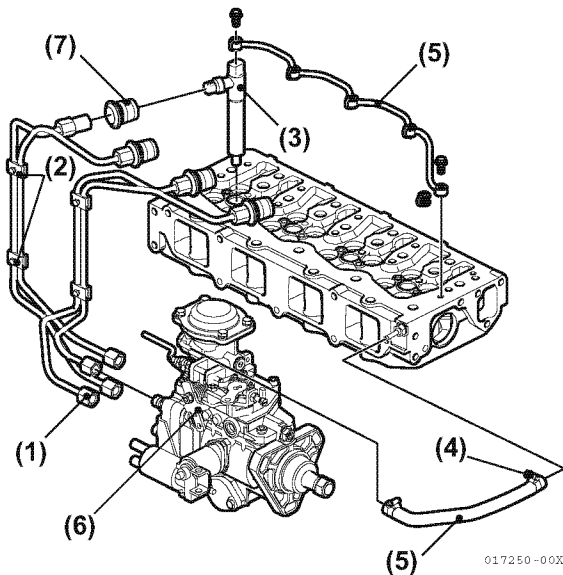

Figure 6-9
4. Remove return fuel line from fuel injection nozzle (**Figure 6-9, (4)**).
5. Remove the bolt retaining the fuel injection nozzle. Remove fuel injection nozzle (**Figure 6-9, (3)**). See *Remove the fuel injection line (Figure 5-32) through (Figure 5-34): on page 5-32.*